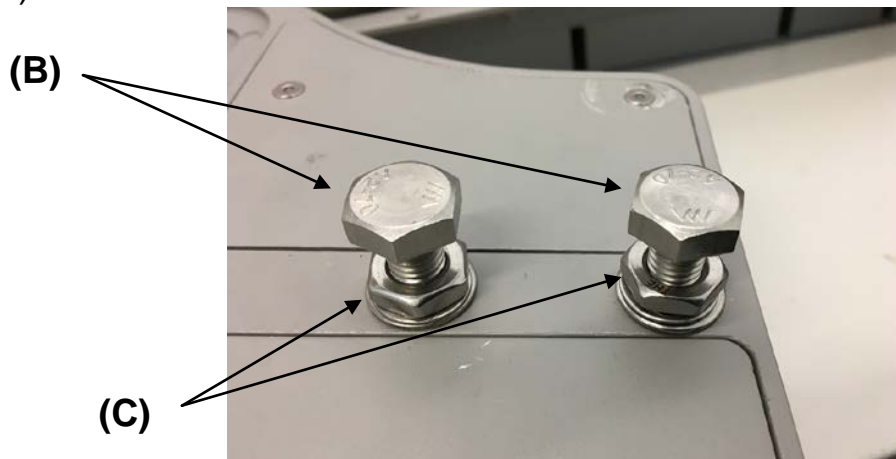

Figure 1
1. Fit the two spigot clamp bolts (B), lock nuts (C), lock washer and flat washer per *figure 1* in the location as shown on the right
6. Then with the torque wrench, fully tighten each clamp bolt (B). Tighten both locknuts (C).